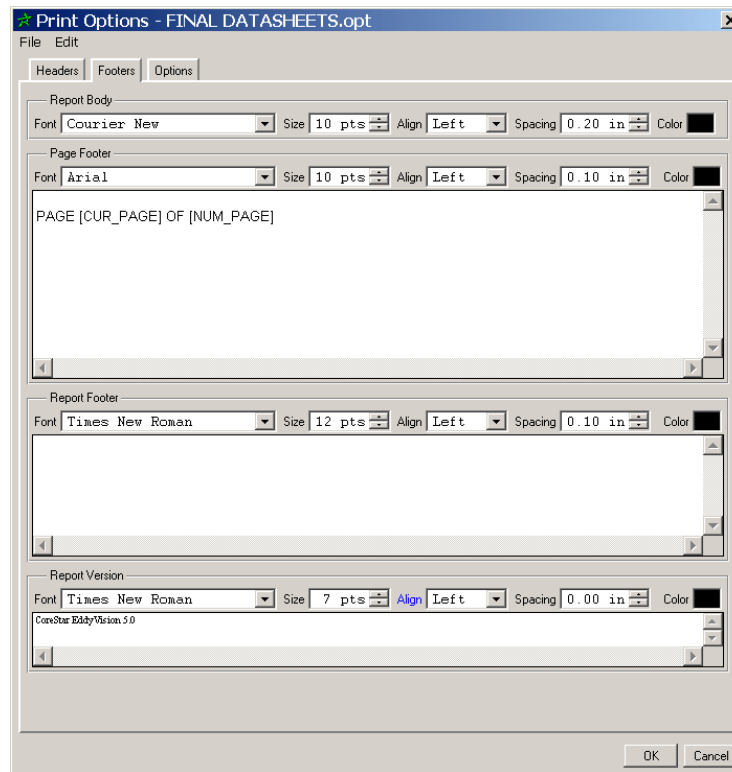

Figure 17-2. DBMS Print Options Dialog - Footers Tab
- STEP 4:** Referring to Figure 17-2, enter the following text using **Arial** font at **10** points and left justified into the **Page Footer** section: